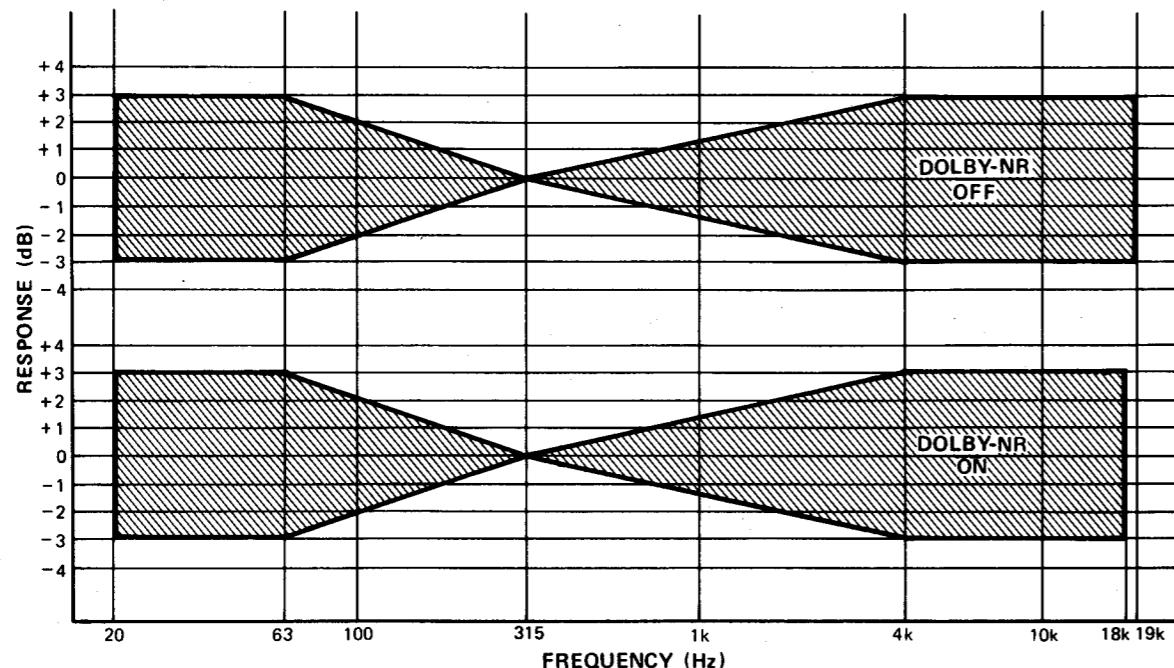

Fig. 5 – FeCr & CrO2
17. If the above frequency response is not within the shaded DOLBY-NR OFF area of Fig. 5, adjust VR311 (left) and VR312 (right) slightly. Repeat steps 15 and 16 until playback frequency response on the V.T.V.M. 2 is adjusted within the DOLBY-NR OFF range as shown in Fig. 5.
18. Set Dolby NR switch to ON position and check if frequency response is within range of DOLBY-NR ON section of Fig. 5, if not repeat DOLBY-NR OFF procedures.
22. If the above frequency response is not within the shaded DOLBY-NR OFF area of Fig. 5, adjust VR313 (left) and VR314 (right) slightly. Repeat steps 20 and 21 until playback frequency response on the V.T.V.M. 2 is adjusted within the DOLBY-NR OFF range as shown in Fig. 5.
23. Set Dolby NR switch to ON position and check if frequency response is within range of DOLBY-NR ON section of Fig. 5, if not repeat DOLBY-NR OFF procedures.